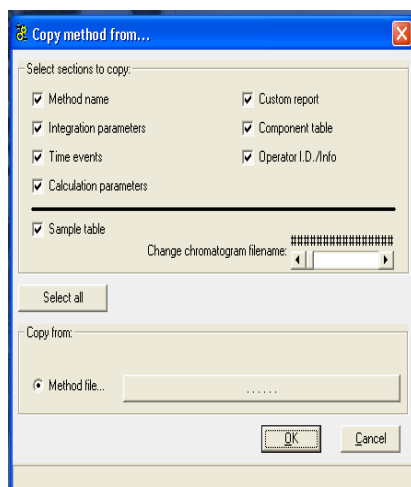

Figure 10. Copy Method from Screen.
1. To copy and load a previous method, select **File > Copy method from...** (Figure 10).